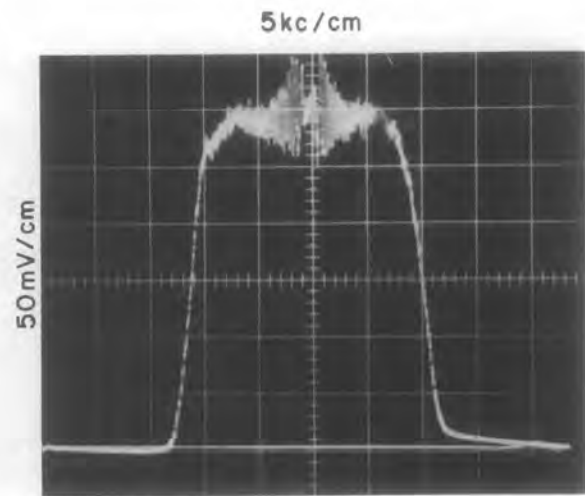

Figure 4-13. Typical Response, 20-kc IF Amplifier Stage
- (1) The equipment should be left connected as in step (4) of the previous procedure.
- (2) Set the IF BANDWIDTH switch to 20 KC.
- (3) Set the sweep generator controls to obtain the marker and response display.
- (4) Adjust coils L7 and L3 to obtain a response similar to Figure 4-13.